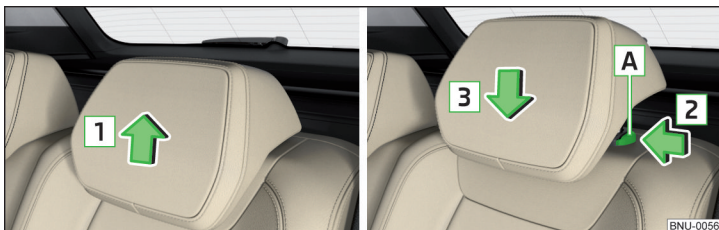

Fig. 97 Setting the height of the rear headrest
- › Grasp the headrest and move **upwards** in the direction of **1** » Fig. 97.